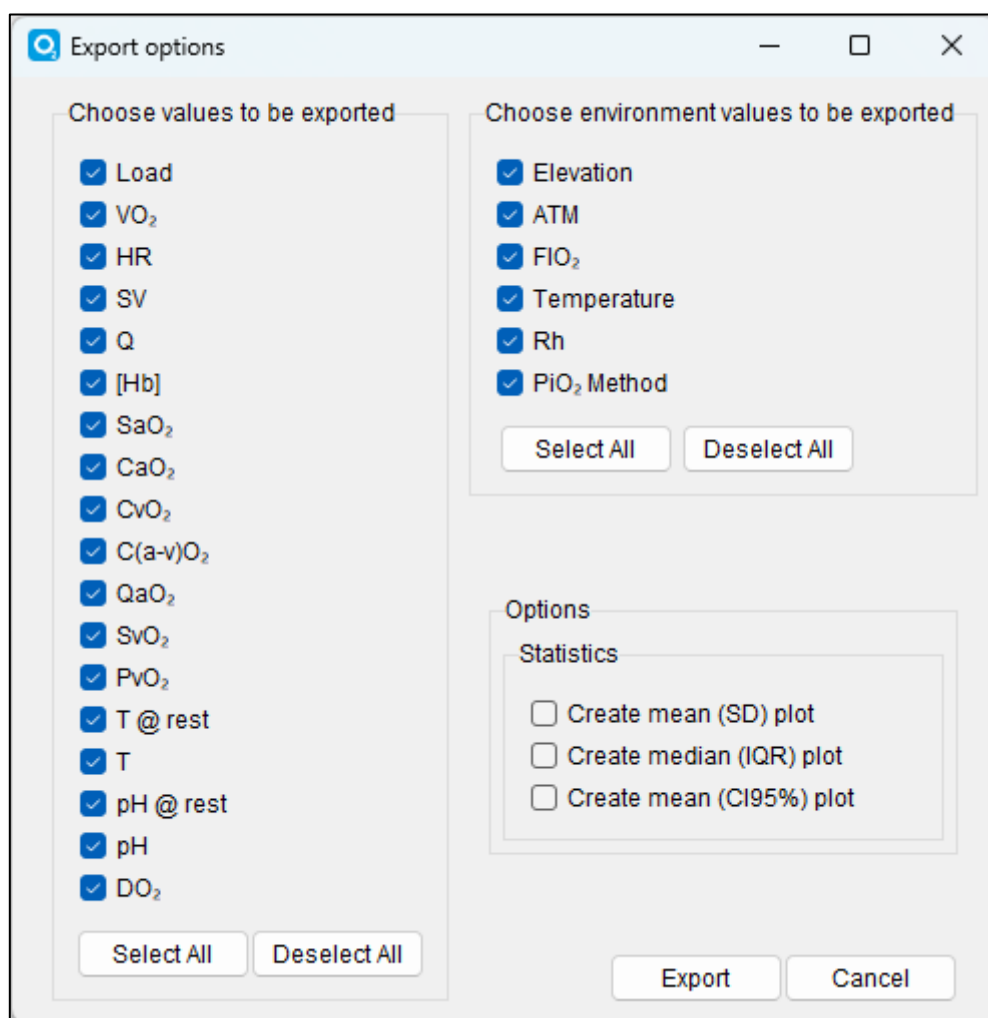

Figure 29 – You can select parameters to be exported by checking the checkboxes. By default, everything is exported.
2. Choose the parameters you want to export (Figure 29).
3. Click the “**Export**” button (Figure 29).